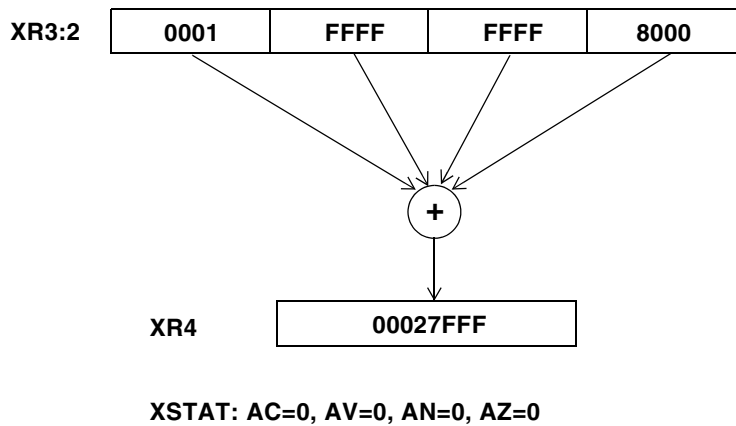

Figure 8-11. Unsigned SUM
XR4 = SUM SR3:2 (U);; *see Figure 8-11*